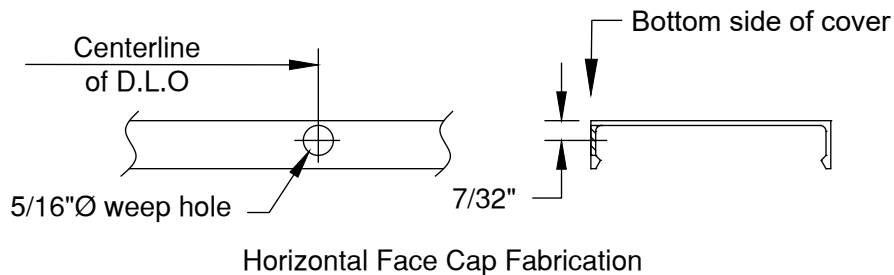

FIGURE 18
- 3.15 Seal horizontal pressure plates against the vertical face covers. Tool sealant into the joint. SEE FIGURE 18.